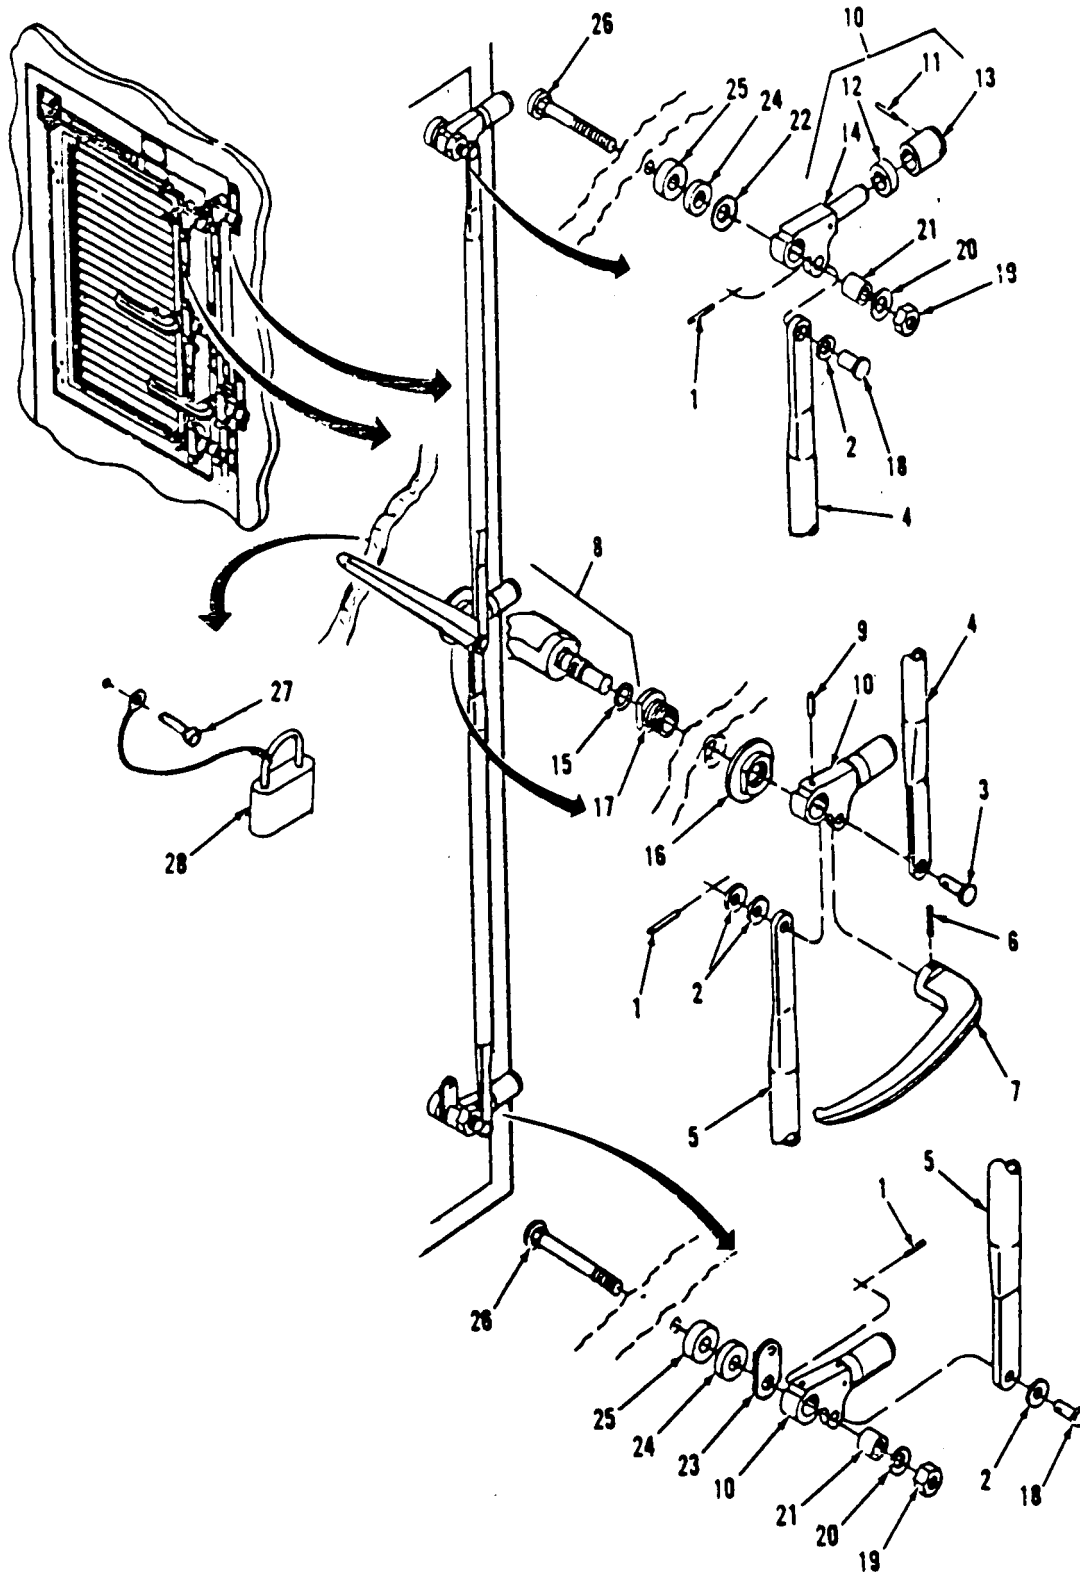

Figure 3-21. Door Handle Assembly and Latching Mechanism Replacement.
Except for the length of the latch assembly rods (items 4 and 5, Figure 3-21), the inner door and outer door handle mechanisms are identical. Maintenance procedures are the same for both.
- (1) Inspect the door latch assembly for secure mounting and broken or worn parts.
- (2) Inspect for ease of operation.
- (3) Inspect the door handle for tightness and for worn or damaged parts.
*b. Service.* (Figure 3-21) Service of the door latch assembly consists of lubricating the door handle (8) and latch arm assemblies (10) with lubricant.
##### *c. Disassemble.* (Figure 3-21)